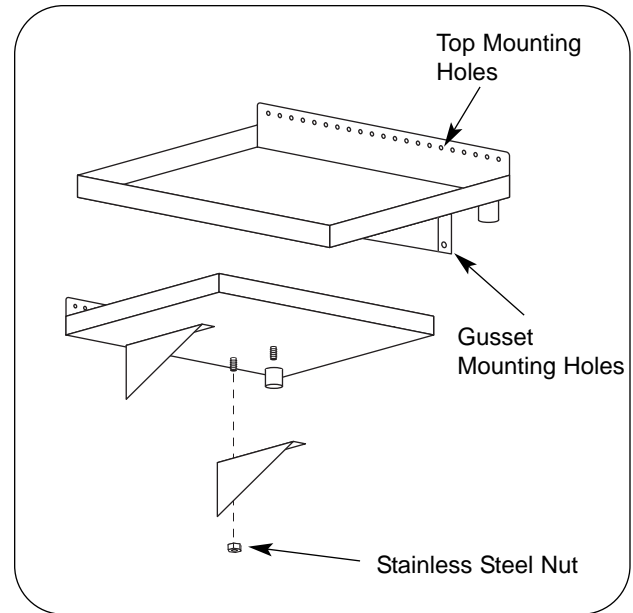

Figure 6. Shelf Assembly Mounting
2. Mount the shelf assembly to wall with appropriate hardware at all four gusset mounting holes. If gussets cannot be mounted directly into wall studs, secure shelf to wall studs using at least two of the shelf top mounting holes. (See Figure 6.)